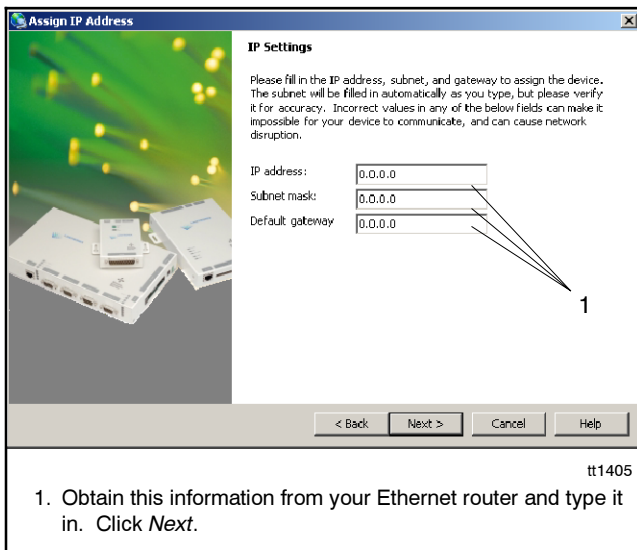

Figure 35 IP Settings
9. See Figure 35. Use an available IP address that you identified in Section 9.4. Refer to the instructions provided with your router to find the subnet mask and gateway. Type in the bridge IP address, subnet mask, and default gateway in dotted decimal notation. Click Next.